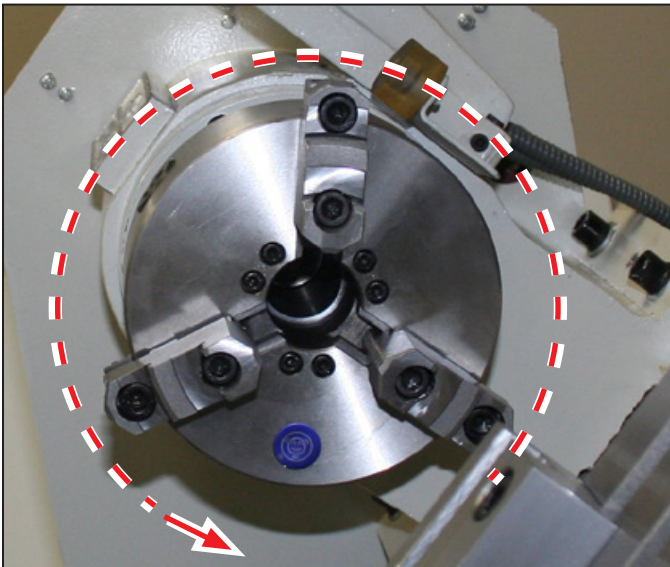
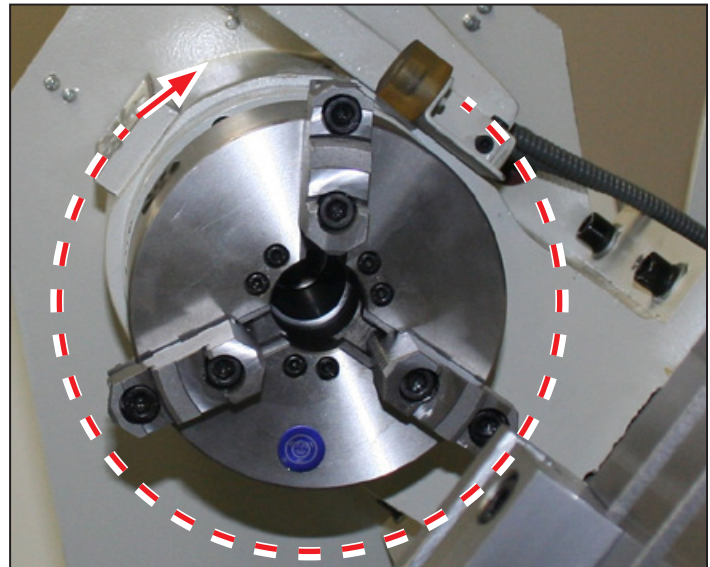

Figure 3.2
Figure 3.3
4. Observe spindle direction to confirm forward is correct (see **Figure 3.2**); repeat to confirm reverse is correct by clicking Spindle *REV* and observing spindle direction (see **Figure 3.3**). If not rotating as shown, proceed to *Spindle Direction* in chapter 8, *Troubleshooting*.